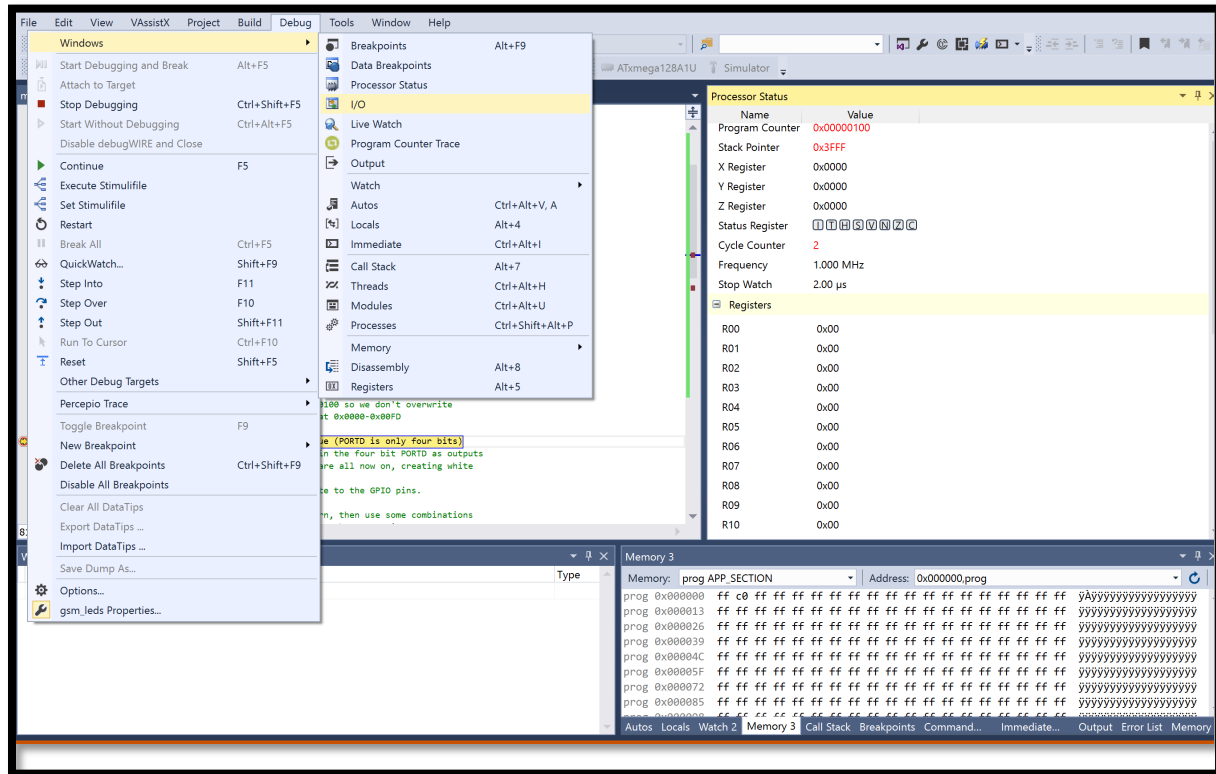

Figure 8: Selecting the I/O Debug view
- Open the *I/O* view by navigating to **Debug** → **Windows** → **I/O**, as shown in *Figure 8*. Open the *Processor Status* view by navigating to **Debug** → **Windows** → **Processor Status**.